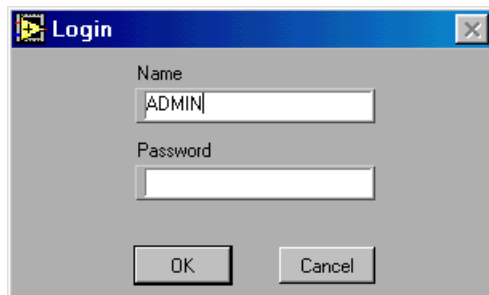

Figure 4-6. Login Dialog Box
2. In the Login dialog box (Figure 4-6), type **ADMIN** in the **Name** text box.